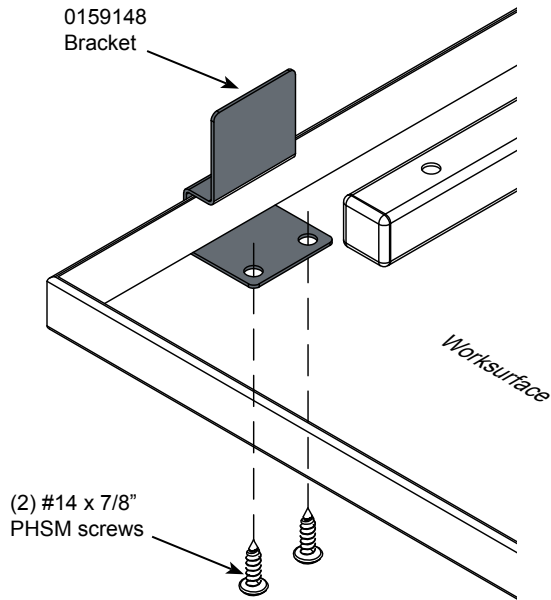

Figure 1
1. Attach the bracket to the left side of the worksurface with (2) #14 x 7/8" PHM screws as shown. **Figure 1.**